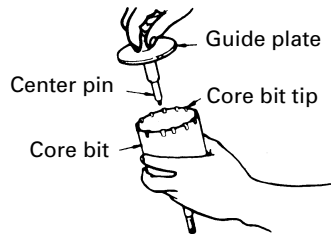

Fig. 20
- (4) Engage the guide plate with the core bit, and turn the guide plate to left or right so that it does not fall even if it faces downward. (Fig. 20)